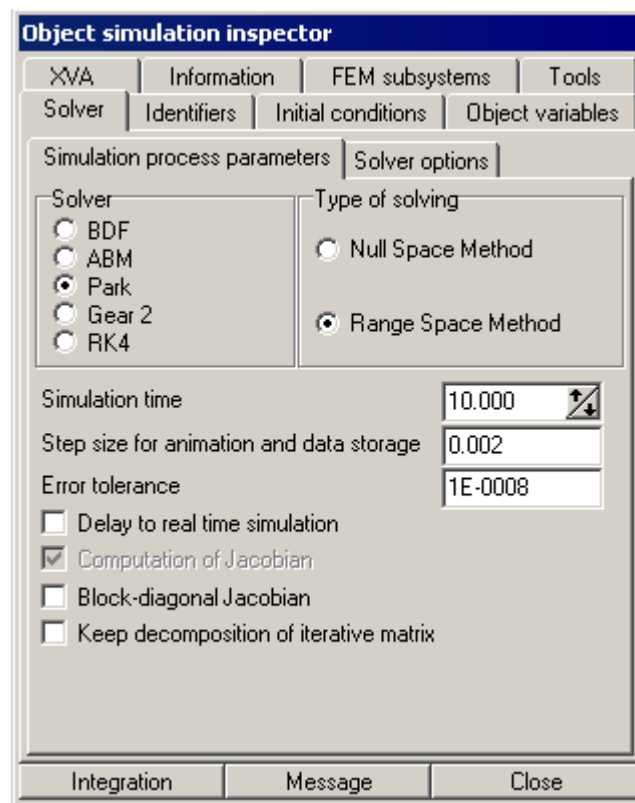

Figure 3.29
7. Set the solver parameter on the **Solver** tab of the inspector as in Fig. 3.29: